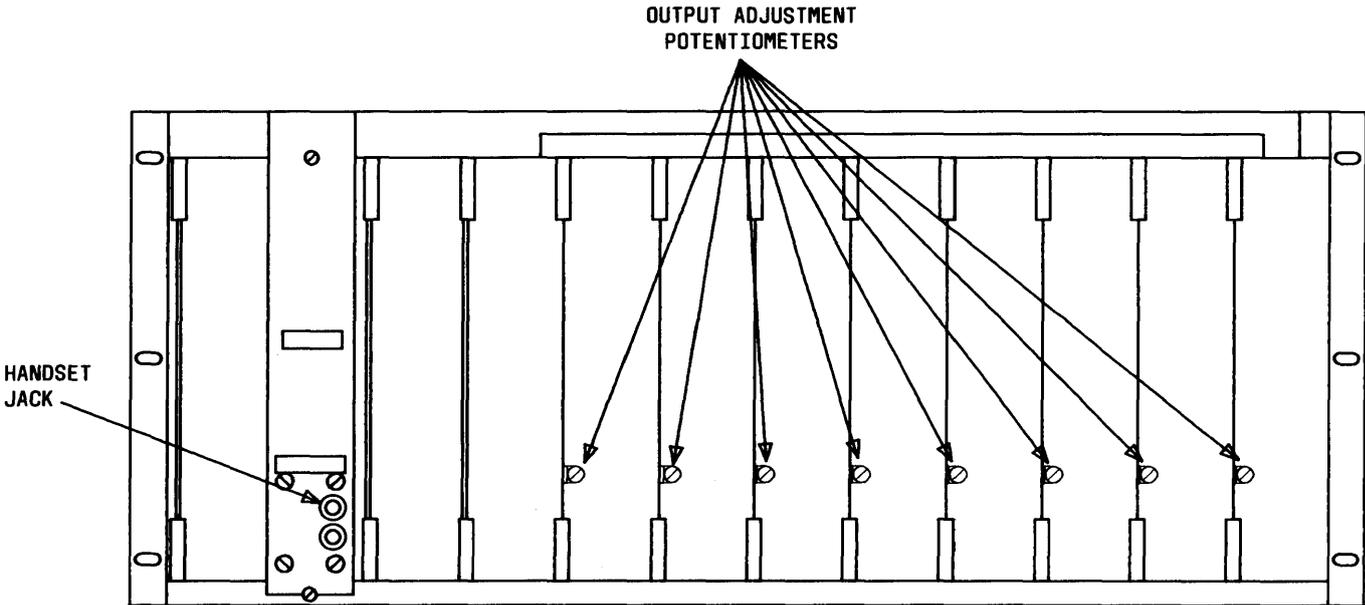

Fig. 1—13A Announcement System
1.04 The 13A is a recorded announcement machine that has the capability of one to eight channels (Fig. 1). Each channel announces only one recording. The recording is recorded on a UD4 or UD6 message module circuit pack. Each announcement can be adjusted in 3-second lengths from 3 to 12 seconds for the UD6 and from 3 to 24 seconds for the UD4.
- (1) Connect a handset in the HANDSET jack on the front of the shelf assembly (Fig. 1).
- (2) Operate CHANNEL ACCESS switch to ACCESS. CHANNEL ACCESS LED lights.
- (3) Operate CHANNEL ACCESS switch to NORMAL when through.